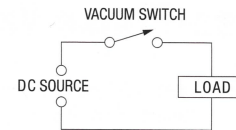

Figure 3 — No Arc Suppression
1. Vacuum switches are rated up to 20 amps at 30kV DC and 10 amps at up to 50kV DC resistive loads without arc suppression. (See Figure 3.)